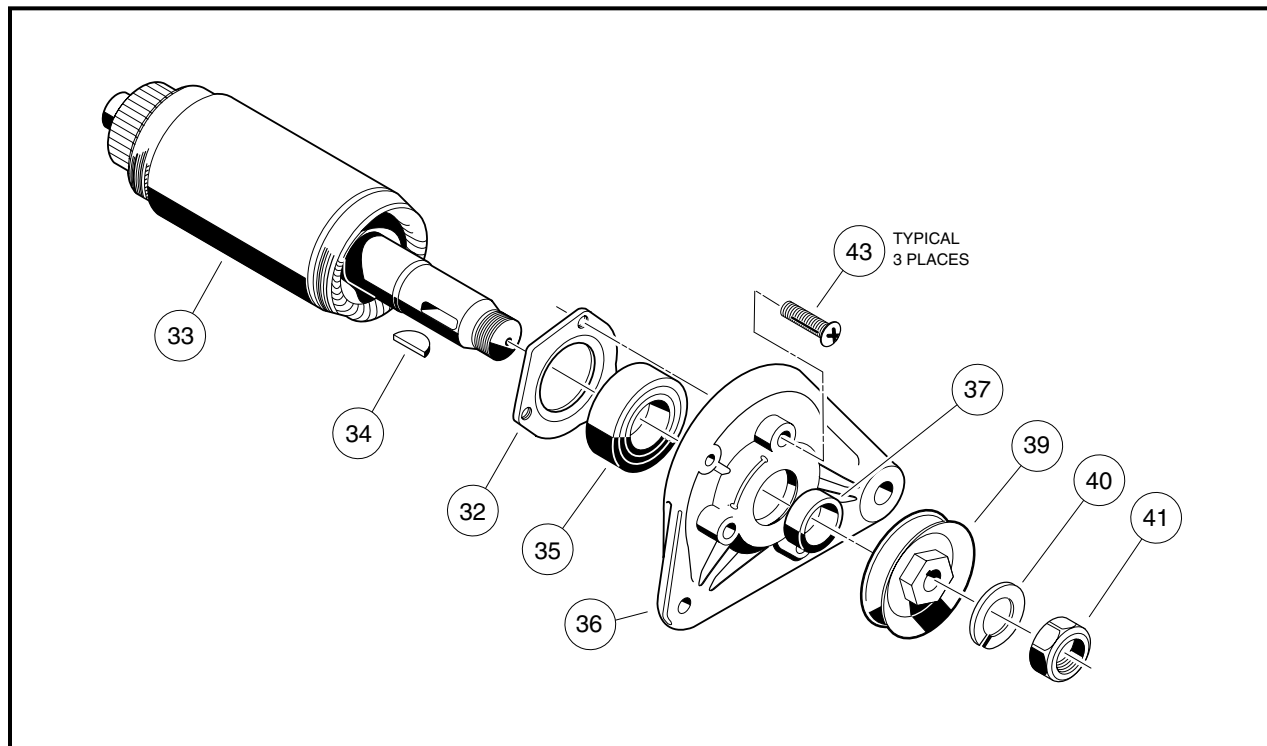

Figure 12-8 Armature and Output End Cover Assembly
3. To separate armature (33) from output end cover (36), remove nut (41), lock washer (40), pulley (39), shaft key (34), spacer (37), and bearing retainer screws (43) (**Figure 12-8, Page 12-6**).
3. Slide the bearing retainer (32) off of the output end of the shaft (Figure 12-8, Page 12-6).
4. Slide the bearing retainer onto the output end of the armature shaft (33) so that it will hold the outside of the bearing (35) only (**Figure 12-8, Page 12-6**).
5. Press a new ball bearing (35) onto the output end of the armature. Press a new ball bearing onto the commutator end of the armature shaft. **See following CAUTION.**
6. Install the output end cover (36) onto the armature. Secure the bearing retainer (32) to the cover and tighten the screws (43) to 39 in-lb (4.4 N·m) (**Figure 12-8, Page 12-6**).
11. Slide the spacer (37) onto the end of the shaft. Insert the shaft key (34) into the shaft. Install the belt pulley (39) onto the shaft, and install the lock washer (40) and M14 nut (41). Tighten the nut to 28 ft-lb (38 N·m) (**Figure 12-8, Page 12-6**).